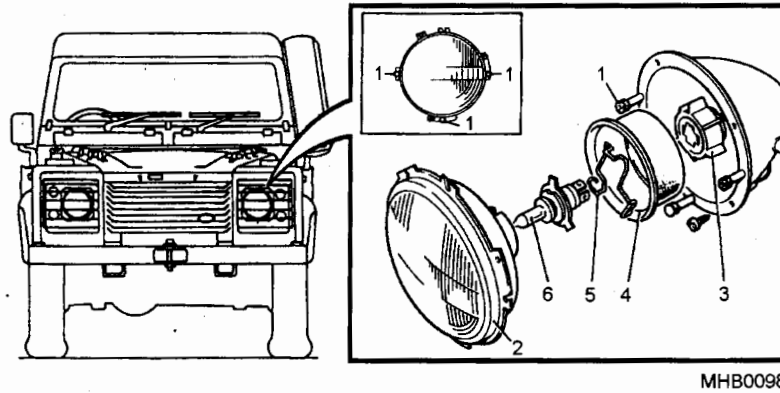

Fig 9 Headlights
- 12.3 Prise the headlight unit (Fig 9 (2)) from the headlight beam adjustment screws (1) and remove. The headlight lens can now be removed.